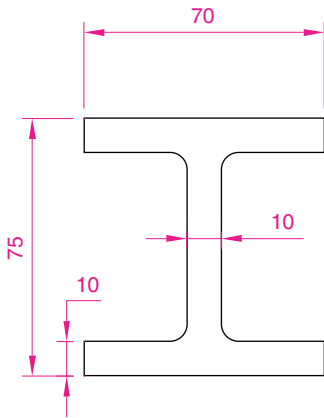

Fig. 13.32 Example **Sweep** – the outline to be swept
1. Construct the pline outline in Fig. 13.32 in the **Top** view.